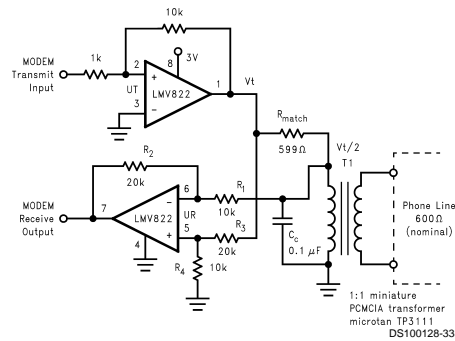

FIGURE 7. Telephone-line Transceiver for a PCMCIA Modem Card
The telephone-line transceiver of Figure 7 provides a full-duplexed connection through a PCMCIA, miniature transformer. The differential configuration of receiver portion (UR), cancels reception from the transmitter portion (UT). Note that the input signals for the differential configuration of UR, are the transmit voltage ( $V_T$ ) and  $V_T/2$ . This is because  $R_{match}$  is chosen to match the coupled telephone-line impedance; therefore dividing  $V_T$  by two (assuming  $R_1 \gg R_{match}$ ). The differential configuration of UR has its resistors chosen to cancel the  $V_T$  and  $V_T/2$  inputs according to the following equation: